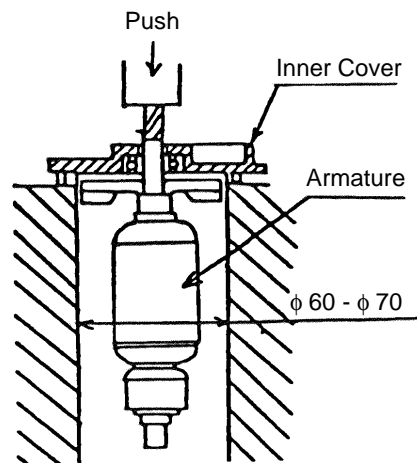

Fig. 3
- (1) Loosen the M4 x 50 (+) -Hd. Tapping Screws (8) and the M4 x 35 (+) -Hd. Tapping Screws (7) which retain the Gear Cover (9), and remove the Gear Cover from the Housing (18). Then, remove the Inner Cover Ass'y (11) and the connected Armature Ass'y (14) from the Housing.
(2) Remove the Armature Ass'y from the Inner Cover Ass'y:
As illustrated in Fig. 3, support the Inner Cover Ass'y ⑪ with a tubular jig, and push down on the tip of the pinion gear on the Armature Ass'y ⑭.
(3) Remove the Stator Ass'y from the Housing: